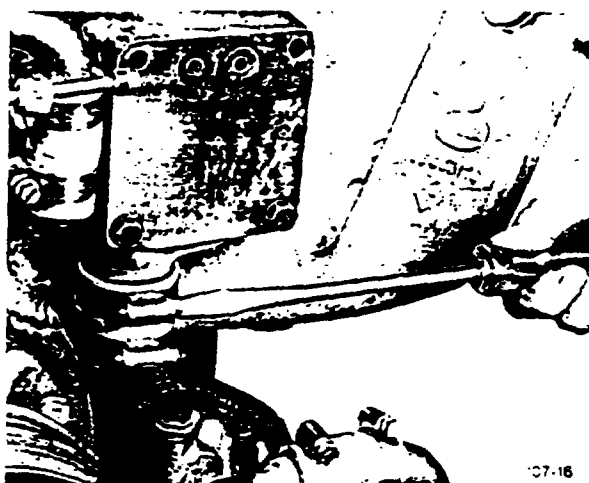

Figure 2-383. Clamps Locations
4. Position the hose clamps and tighten. See Figure 2-383.